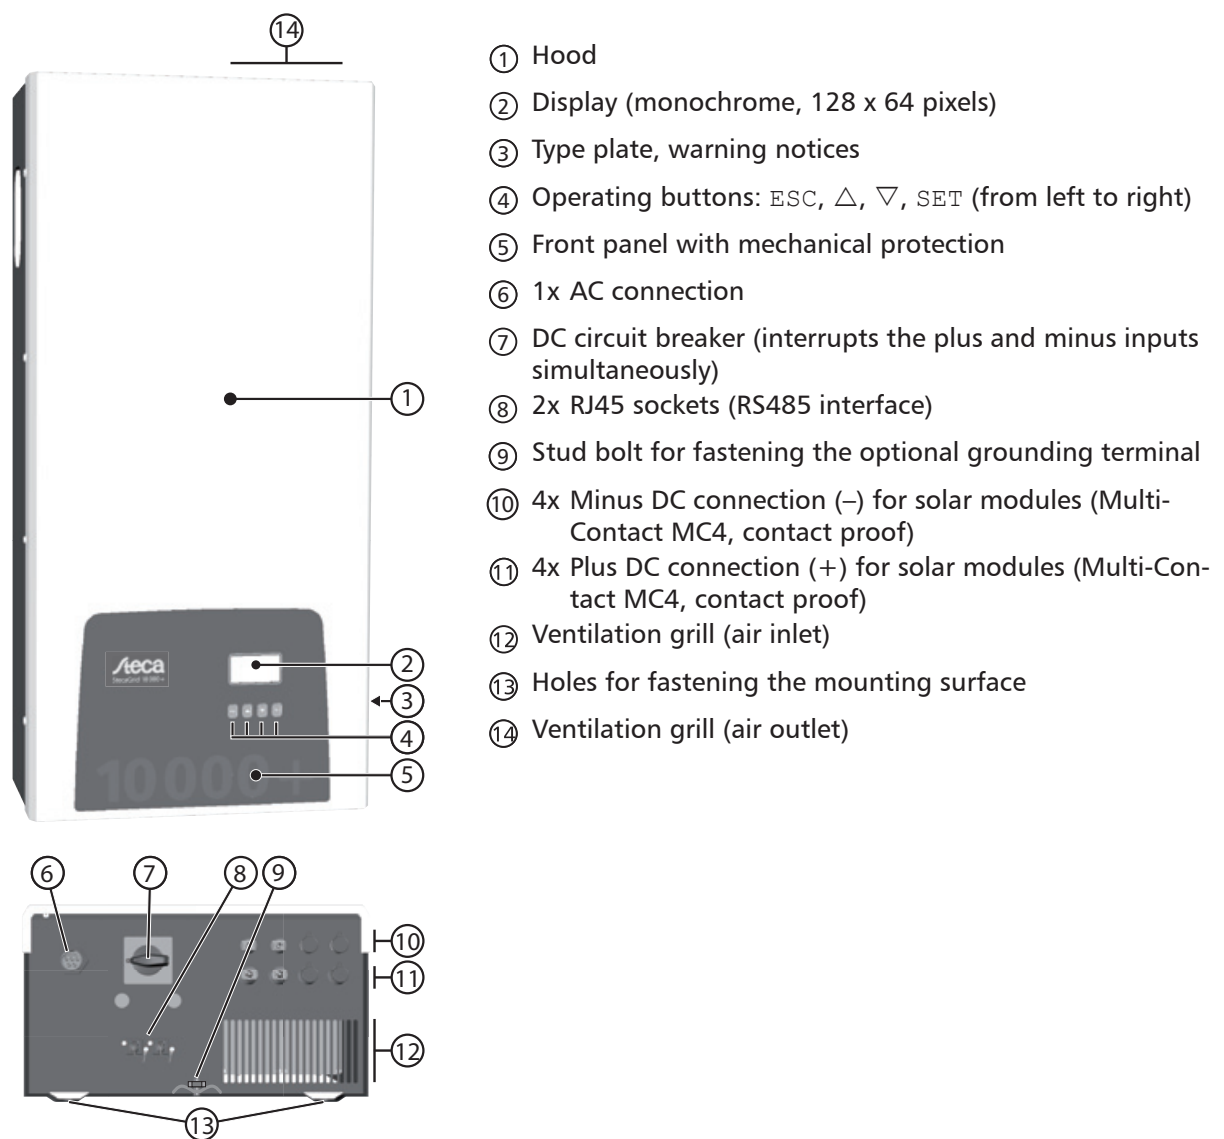

Fig. 5: Components on the front and lower sides of the casing
For the position of the type plate, see Fig. 5, p. 47.
The operating buttons (④ in Fig. 5) have the following functions:
For information shown in the display (② in Fig. 5) the following generally applies: